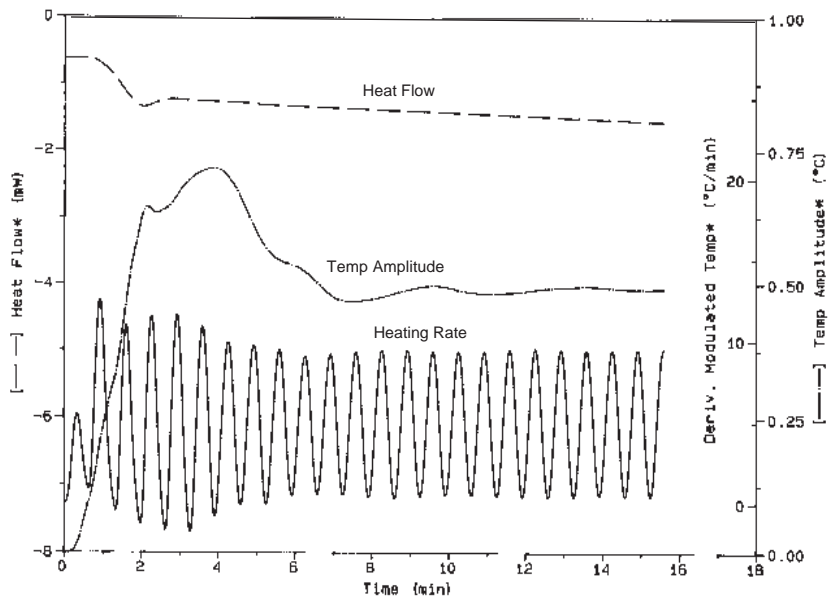

Figure C.8
Modulation amplitude is measured and controlled by the DSC module. Some amplitude instability will occur at the beginning of a method segment as the amplitude control stabilizes. (see Figure C.8 on the next page.) These control oscillations are not harmful to the heat flow deconvolution because the actual temperature and heat flow amplitudes are measured and used in the deconvolution calculations. Generally, these oscillations will dampen completely within 5 to 10 minutes after the start of the method segment.
The heat flow signal of an MDSC™ ramp start-up looks similar to a glass transition with a trailing relaxation peak (see Heat Flow signal in Figure C.8). All data prior to the return to stable baseline (the first 5 minutes in Figure C.8) should normally be discounted. To avoid any possibility of the amplitude stabilization affecting the quality of a transition, start the ramp at a temperature that will provide a five (5) to ten (10) minute stabilization time prior to the transition of interest.